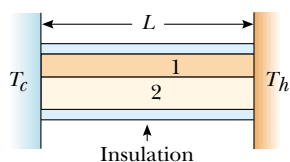

Figure P20.46
46. Two rods of the same length but made of different materials and having different cross-sectional areas are placed side by side, as shown in Figure P20.46. Deter-